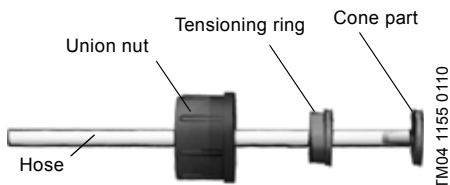

Fig. 8 Hydraulic connection
2. Push cone part fully into hose, see fig. 8.